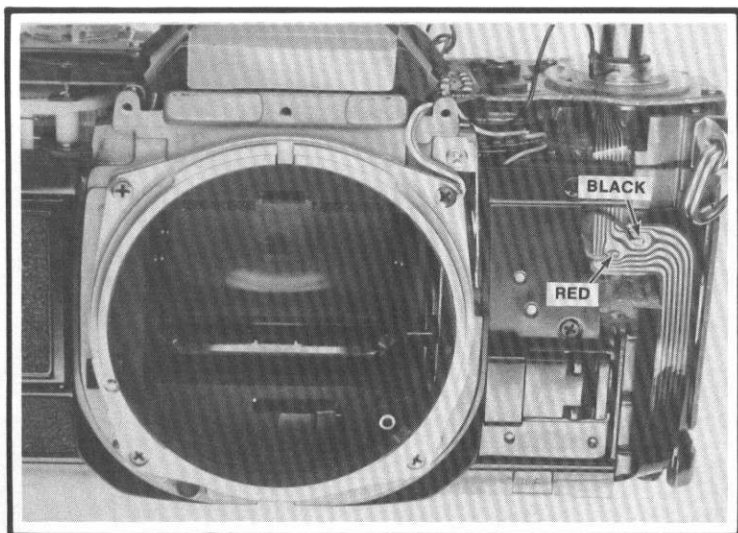

Figure 37
3. Unfold the section of flex circuit covering the MG1 connections, Fig. 37.
4. Unsolder the red and black MG1 wires from the flex, Fig. 37.
11. Solder the MG1 wires, Fig. 37. Fold the insulator section of the flex on top of the MG1 connections; tuck the end of the insulator section under the front plate.